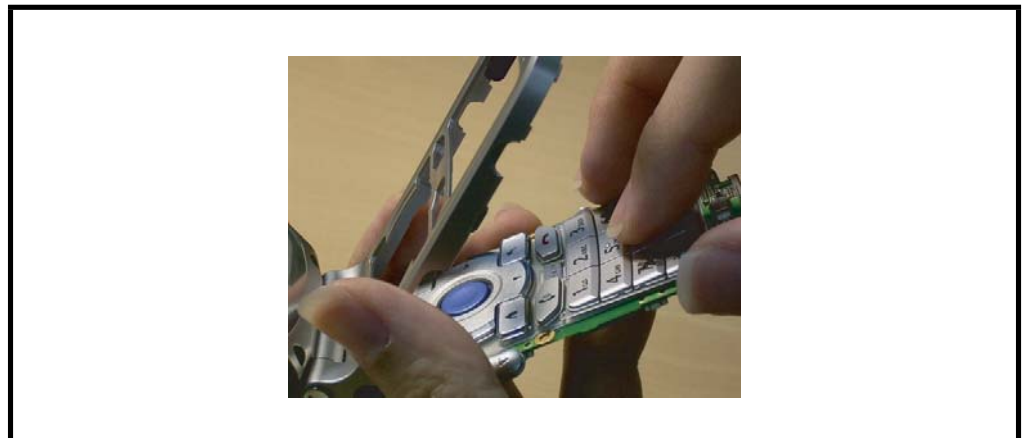

Figure 24. Removing the Keypad
3. Remove the keypad below the lower PCB from the phone as shown in Figure 24.